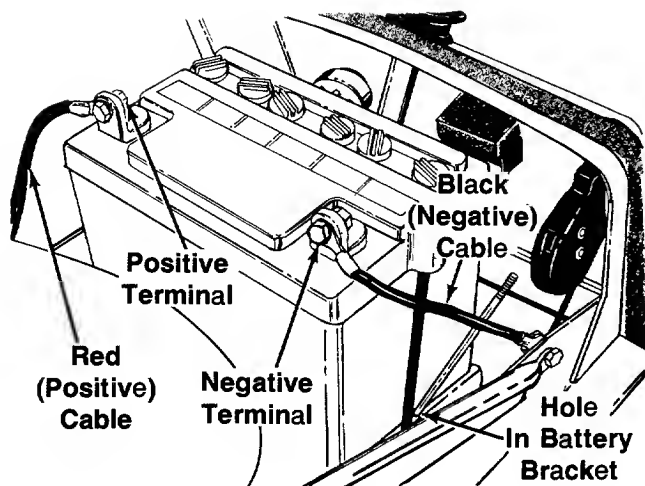
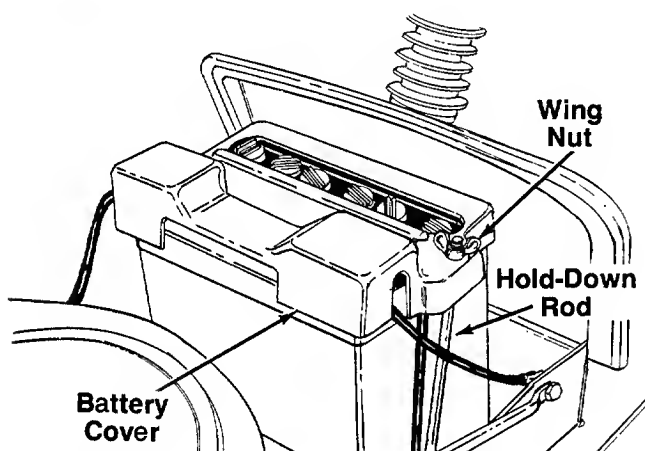

FIGURE 6.
FIGURE 7.
2. Place the battery in the lawn tractor so that the positive terminal is facing the right side of the unit. See figure 6.
3. Attach the positive cable (heavy red wire) to the positive battery terminal (+) with hex bolt 5/8" long, 1/4" lock washer and hex nut. See figure 6.
5. Hook one hold-down rod into the hole in the edge of the battery bracket beside the battery. See figure 6. Place the black plastic battery cover in position over the hold-down rod. Secure with wing nut. Attach other hold-down rod to the other side of battery cover in the same manner. See figure 7.